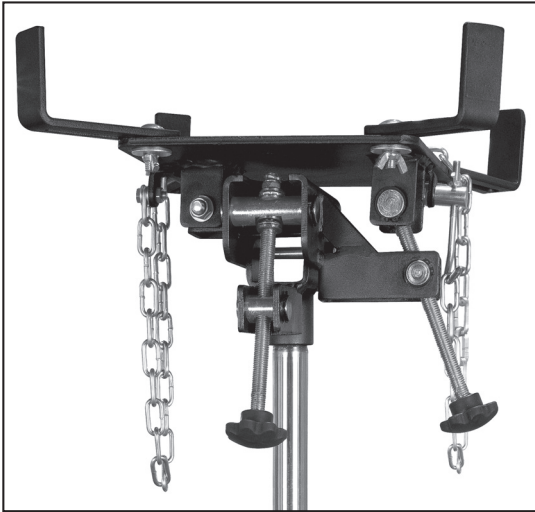

FIG.3
- Connect the brackets and chains to the saddle with bolts, washers and wing nuts as Fig 3.